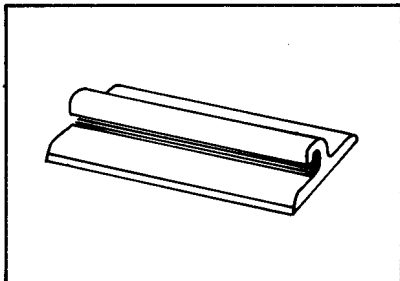

FIGURE 2. Adhesive Cable Clips
4.05 Adhesive Cable Clips (Figure 2):